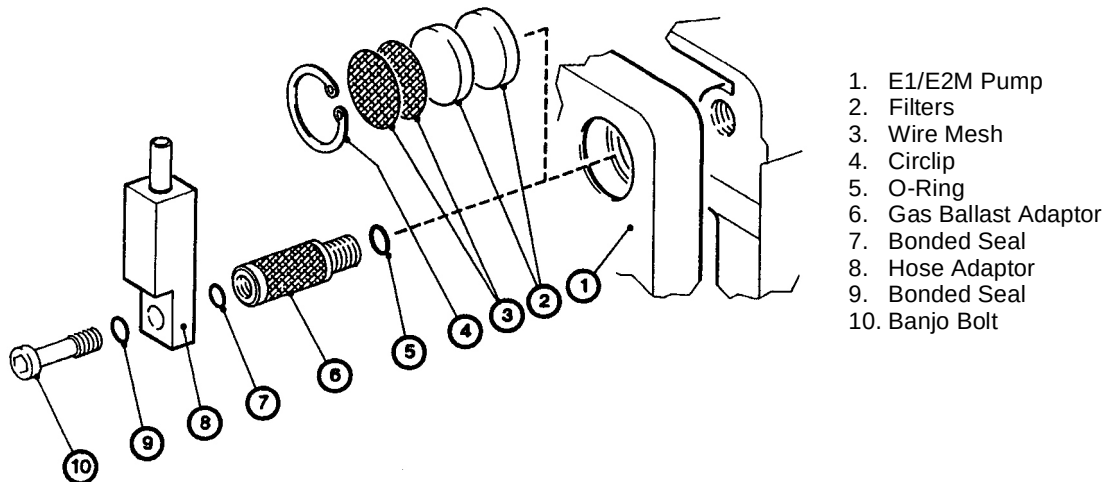

Figure 2-3 Fitting the Gas Ballast and Hose adaptors to the Rotary Pump
1. Install the drain adaptor and bonded seal onto the oil mist filter drain port (Figure 2-3).